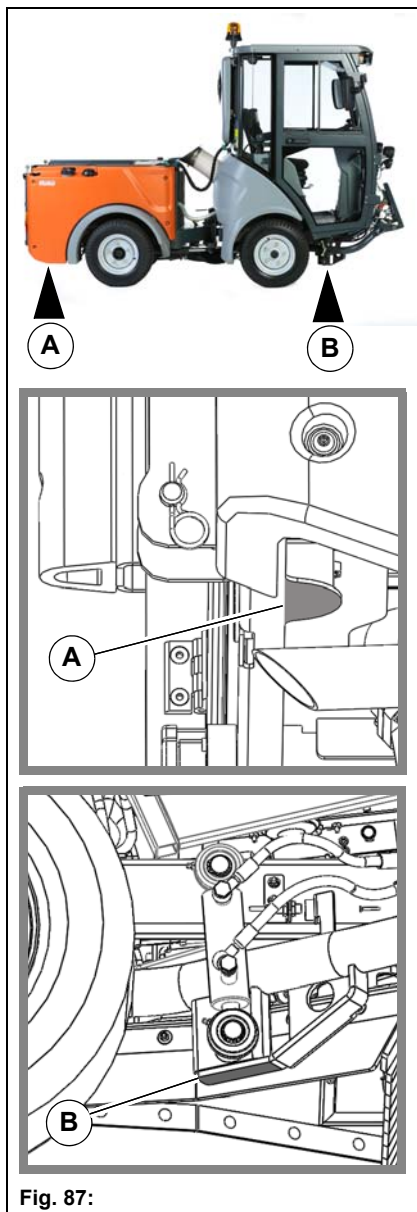

Fig. 87:
2. Attach the jack stably to the jacking point **Fig. 87-A** or **Fig. 87-B**.